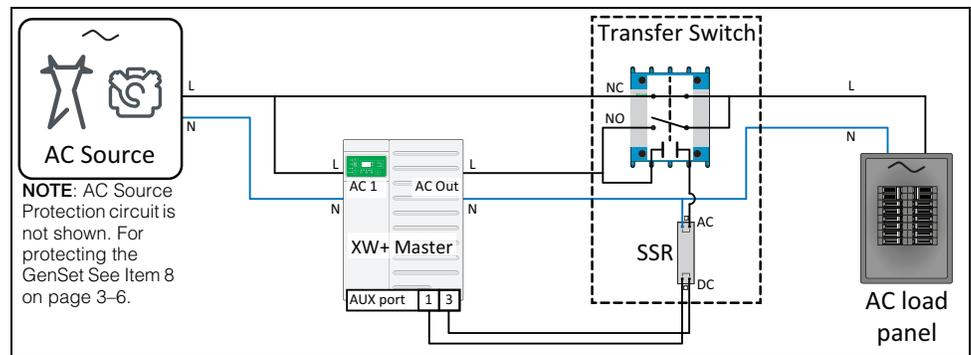

Figure 2-7 AUX Port to Solid State Relay (SSR)
- **AUX port** of the Master unit connected to a solid state relay (SSR) as shown in Figure 2-7